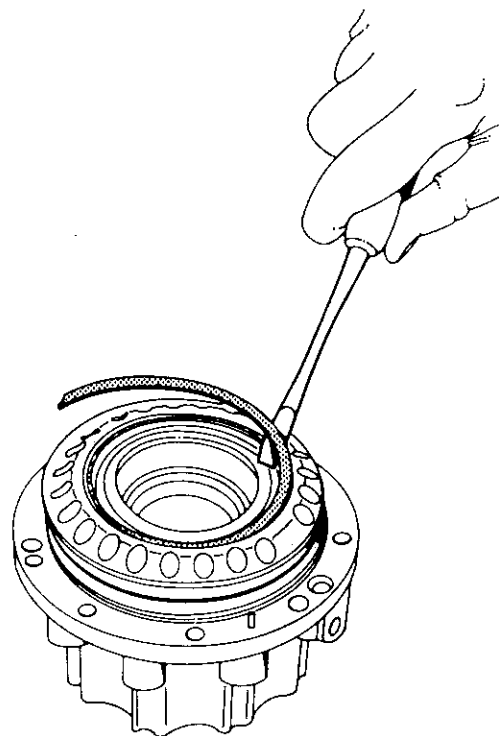

Figure 5.11
18. Remove the front retaining ring (12) from the drive housing, as shown in Figure 5.11.